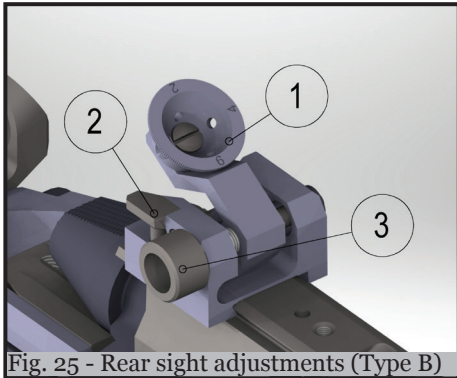

Fig. 25 - Rear sight adjustments (Type B)
The use the rear sight, lift up the diopter wheel (1, (Fig. 25). Diopter wheel is returned down by pushing button (2). Windage adjustment is done by rotating adjustment screw (3) by hand. Turning the screw clockwise moves the diopter wheel to the right, and vice versa.